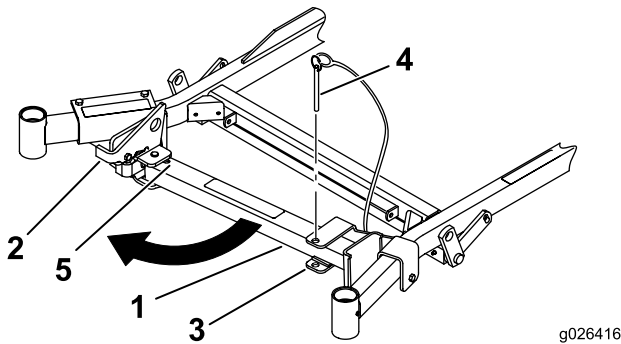
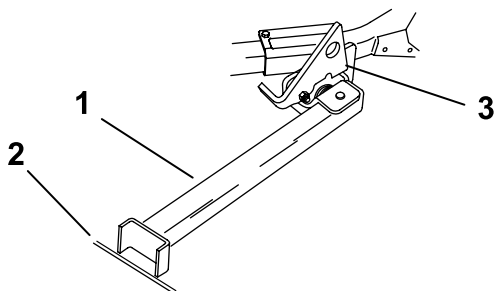

Figure 7
Figure 8
2. Remove the bracket pin (Figure 7).
3. Raise the latch. Swing the stand foot out to the front and slide the stand toward the machine, into the bottom of slot (Figure 7 and Figure 8).
4. Set the foot of the stand on the ground and rest the latch on pivot tab (Figure 8).
**Note:** For best results, place the foot of stand into seams in sidewalks or into turf (Figure 8).
5. Return the stand to its rest position (Figure 7).